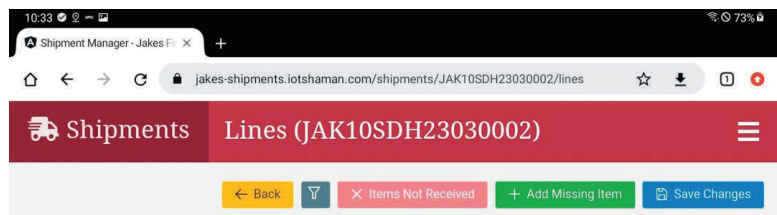

Figure 16
- 7. Click the YELLOW BACK BUTTON (Figure 16).